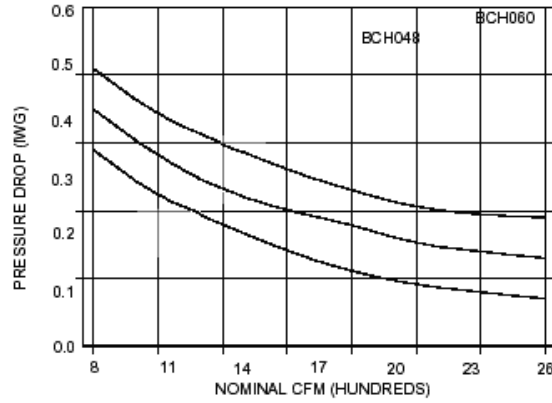

FIG. 11 - PRESSURE DROP ACROSS A DRY INDOOR COIL VS. SUPPLY AIR CFM
4. Knowing the pressure drop across a dry coil, the actual airflow through the unit can be determined from the curve in Figure 11.